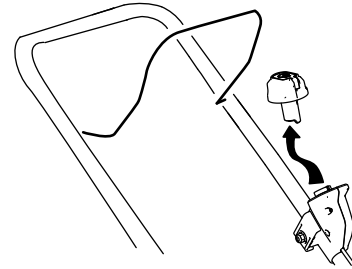

Figure 14
1. Remove the electric-start button (Figure 14).